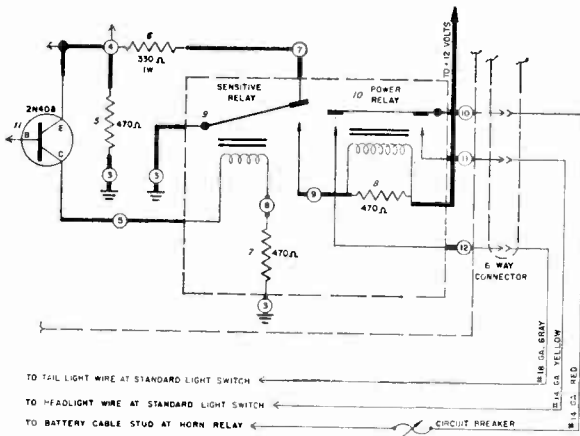

Fig. 5
(1) the transistor base voltage is higher than the emitter voltage and the transistor is not conducting. As light is reduced on the photocell (1) the base voltage drops and the collector current increases.
RELAY CIRCUIT (See Fig. 5). The armature of the sensitive relay (9) is connected to one end of the power relay (10) coil.
Resistor (8), Fig. 5, is used to protect the sensitive relay points by reducing the amount of inductive kick-back when the power relay (10) is actuated.